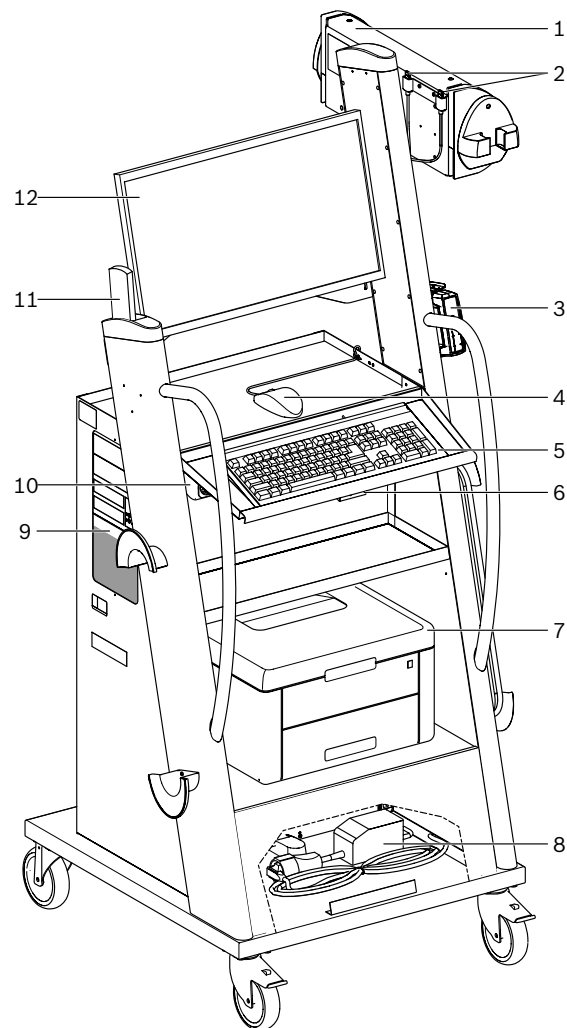
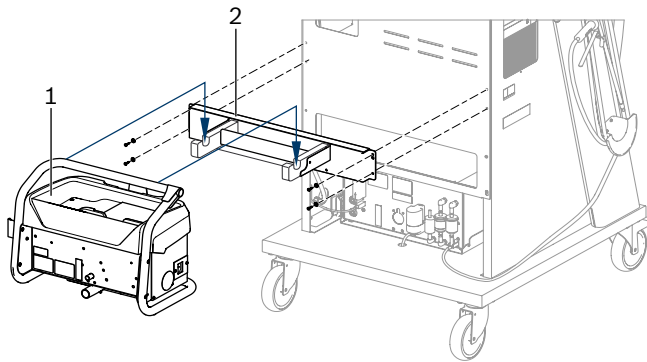

Fig. 1: Front view FSA 740
Fig. 4: Fix the mounting bracket
2. Fit mounting for BEA 070 (fig. 4, item 2) to the trolley.
3. Attach BEA 070 (fig. 4, item 1) in the mounting and, if wished for, plug the USB connection cable on the BEA 070 and USB port to the front of the PC (fig. 1, item 9).
4. Connect power supply cable to the BEA 070 and to the socket strip (fig. 1, item 10).
7. Remove transportation safeguards from laser printer in accordance with the enclosed instructions. Place laser printer (fig. 1, item 7) in the trolley and connect it. Power supply cable and USB connecting cable are provided in the trolley, ready to be connected.
Switch on and off using the central main switch on front of unit (see fig. 1, item 10) FSA 740.